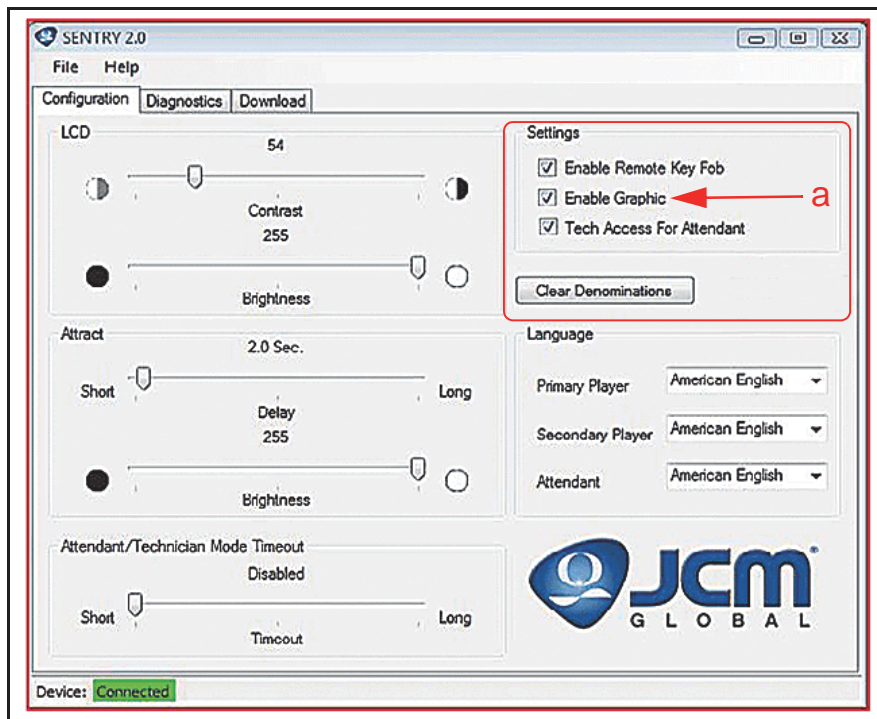

Figure 3 Custom Graphic Enable/Disable Activation Setting Screen
- From the “Configuration” tab Settings field, click to select the Enable Graphic check box (Figure 3 a). The Player screen should display your Custom Graphic.
- From the “Configuration” tab Settings field, click to de-select the Enable Graphic check box (Figure 3 a). The Player screen will NOT display the Custom Graphic.